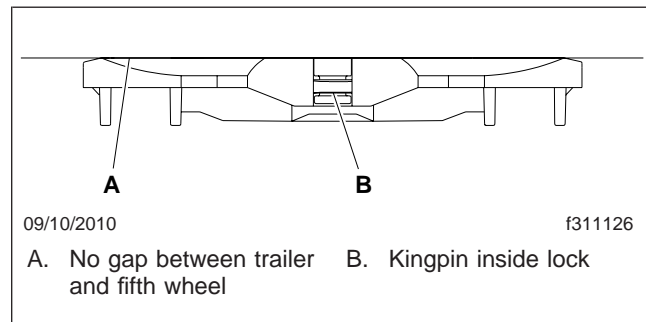

Fig. 10.6, Coupling Inspection
8. Perform a coupling inspection, checking that there is no gap between the bottom of the trailer and the fifth wheel, and that the kingpin is securely locked. See **Fig. 10.6**
10. Apply the tractor parking brake, then perform a physical check for positive kingpin lockup, and that there is no gap between the trailer and the fifth wheel. See Fig. 10.6.